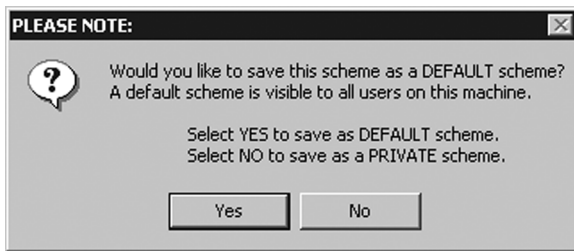

Figure 36
**Note:** If you make any changes to any of the settings of one of the three default schemes, the Current Scheme field will blank and you **MUST SAVE** your changes by clicking on the **“Save As ...”** button. When you click on the **“Save As ...”** button, the name of the last scheme you used will be automatically displayed, you can then choose to use that scheme name or enter a new name. If you enter a name other than one of the three default scheme names, the program will ask you if you wish to save the scheme as a **DEFAULT** scheme (figure 36 below). Click **“Yes”** to save the settings scheme as a **DEFAULT** scheme, click **“No”** to save the scheme as a **PRIVATE** scheme. After you have saved the scheme, then click OK and the new scheme will be in effect.